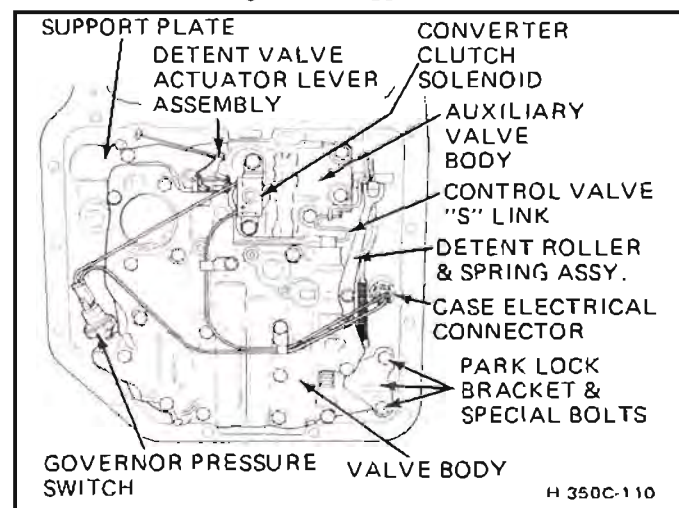

Figure 113 Valve Body and Related Components
4. Install valve body. Connect manual control valve link to range selector inner lever. Install manual shaft retaining clip. Torque bolts in random sequence to 13 ft. lbs. leaving bolt loose for detent roller and spring assembly. See Figure 113. When handling valve body assembly do not touch sleeves as retainer pins may fall into transmission.
5. Install detent roller and spring assembly to valve body. See Figure 113.